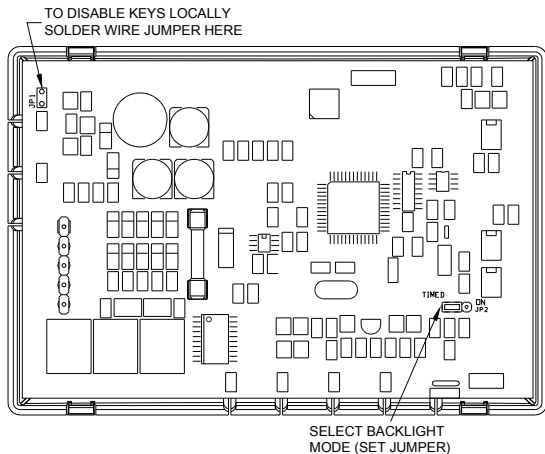

Figure 9
- 1) To configure the display backlight to turn on when a key is pressed, then back off 30 seconds later, set the "JP2" (Select Backlight Mode) jumper to the "TIMED" position (between the middle and left pin on the connector) - See *Figure 9*.
- 2) To configure the display backlight to always be on, set the "JP2" (Select Backlight Mode) jumper to the "ON" position (between the middle and right pin on the connector) - See *Figure 9*.
- 3) To configure the display backlight to never come on (always off), remove the "JP2" (Select Backlight Mode) jumper from the connector - See *Figure 9*.
The keys on the thermostat can be disabled to prevent anyone from controlling the thermostat locally. To disable the keys, solder a wire jumper across "JP1" (two holes on the circuit board) - See *Figure 9*.